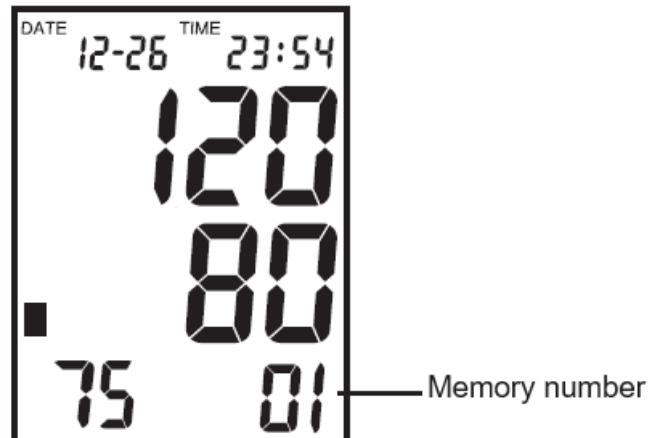

Figure 3.4.1-1
- 2) Press the “MEMORY”button, LCD will show how many results it has, and then the latest result will be displayed, which is 01 for memory number. See **Figure 3.4.1-1**. Continuously press the “MEMORY” button; the memory number will increase by one.